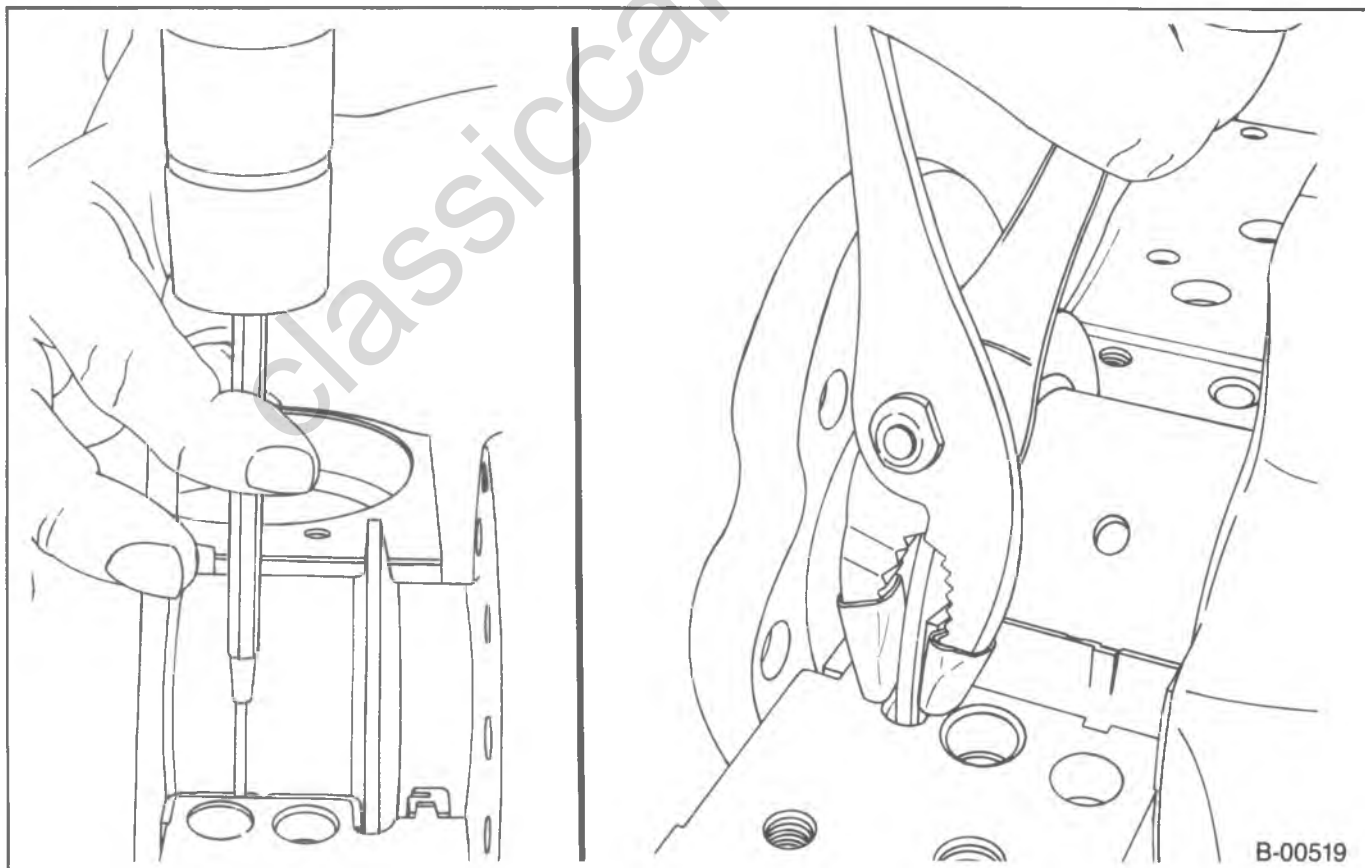

Figure 35—Removing The Upper Rear Main Bearing Insert
↔ Remove or Disconnect (Figures 35 and 36)
- Use a small brass drift and hammer. Tap on the insert, on the side opposite the bearing tan, until the insert rotates out of position (figure 35).
- Use a pair of pliers with the jaws taped to prevent damage to the crankshaft. Clamp the insert to the crankshaft flange (figure 35). Rotate the crankshaft to remove the bearing insert.
- Use pliers with taped jaws to clamp the bearing to the crankshaft as shown in figure 35. Rotate the crankshaft to “roll” the insert into the block. Then seat the insert using a small drift and hammer.